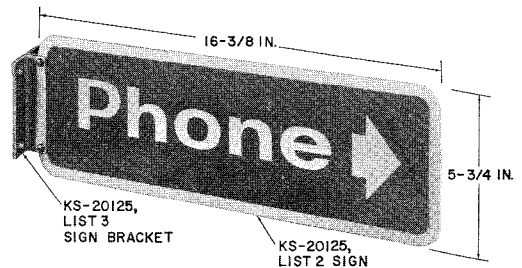

Fig. 14—KS-20125, List 2 Sign and KS-20125, List 3 Sign Bracket
(b) KS-20125, List 2 sign (Fig. 14).
(c) KS-20125, List 3 mounting bracket (Fig. 14):
3.15 Use KS-20125, List 3 mounting bracket (must be ordered separately) when installing perpendicular to a wall (Fig. 14).